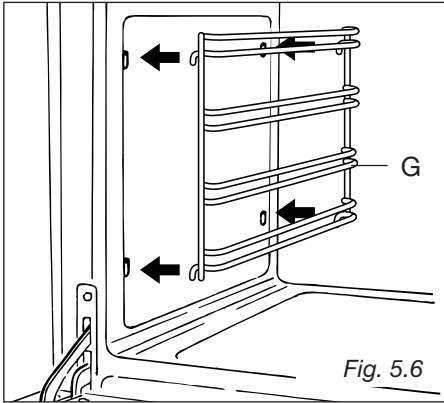

Fig. 5.6
- Hang up the wire racks "G" on the oven walls (fig. 5.6).